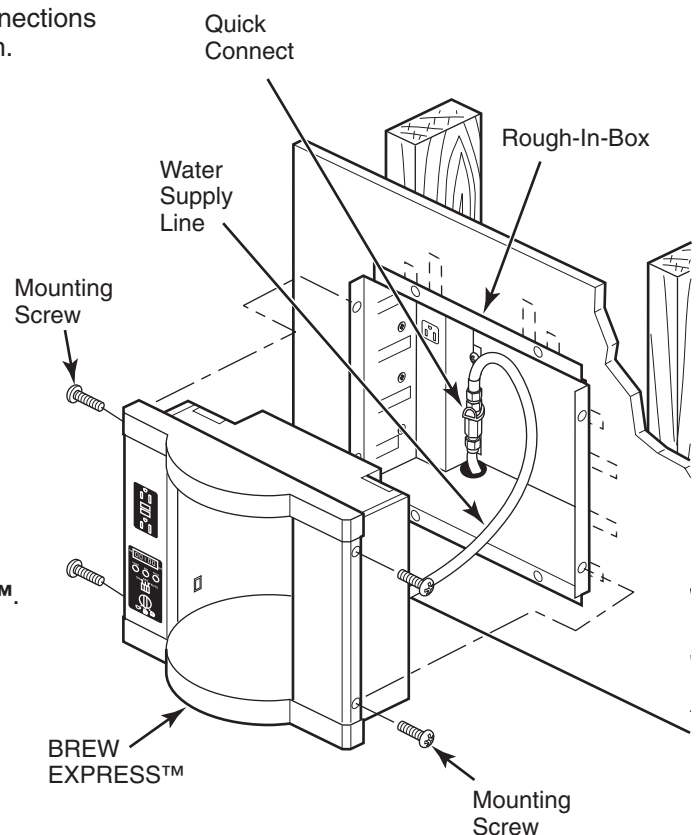

Figure 8.
6. Quick connector is valved at rough-in-box so water can be turned on prior to connection to coffee maker. If installing over a counter place unit on a towel or cardboard to protect counter surface. Place **BREW EXPRESS™** directly in front of **rough-in box**. Use **quick connector** to connect **water supply line** from **BREW EXPRESS™** to **water supply line** from **rough-in-box** (See **Quick Connect Detail**). Turn on water, snap in firmly. Check for leaks prior to final installation of **BREW EXPRESS™**. If leaking, turn off water, tighten connections or reinstall **quick connector**. Turn water on and check again. See **Figure 8.**